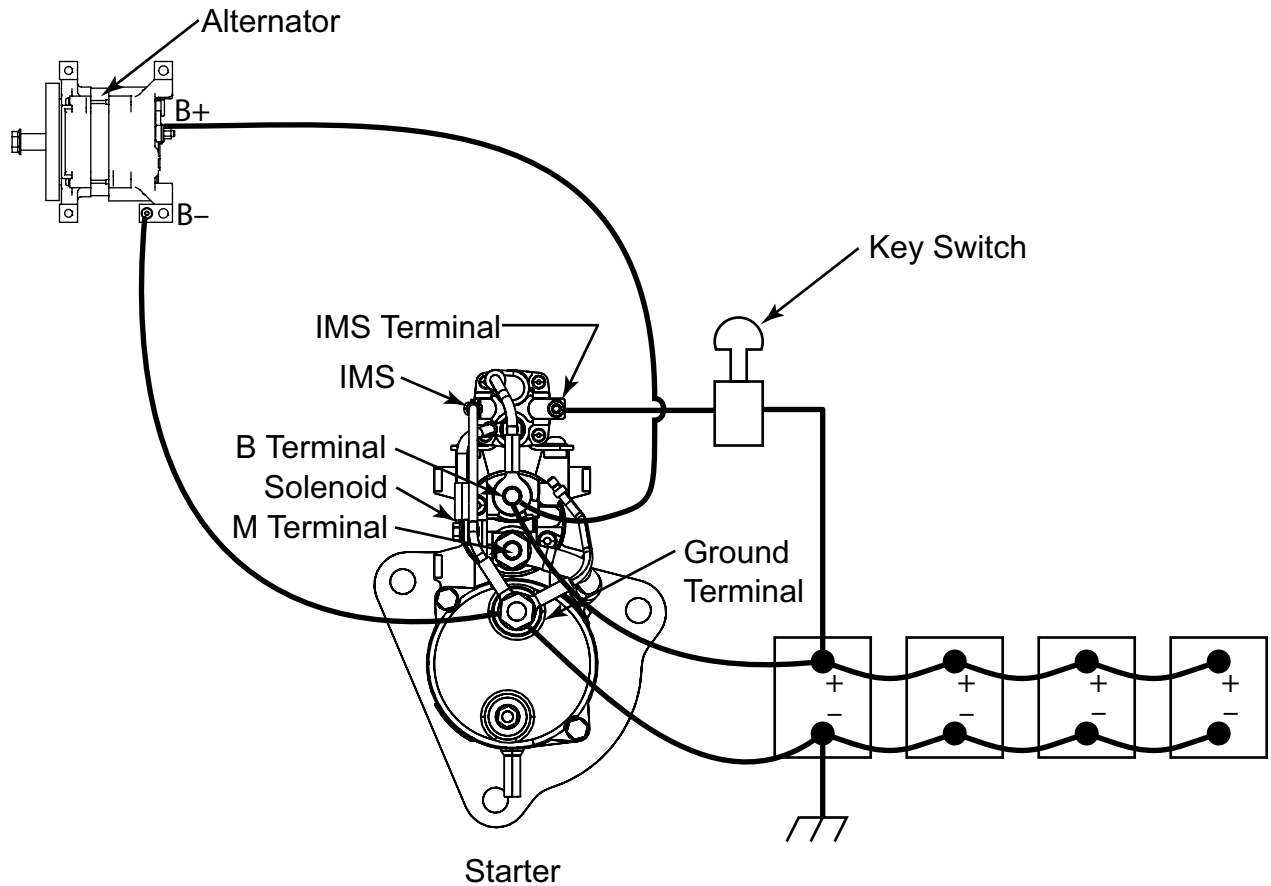

Figure 4: Electrical System
The electrical system covered in this manual consists of five main components: a starter motor, alternator, battery pack, main wiring and control circuit. They are all interconnected and each must function properly for the system to work. Figure 4 shows these components.
- ▶ Figure 4 illustrates typical control circuit configuration